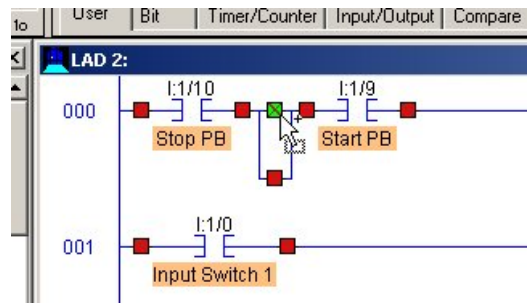
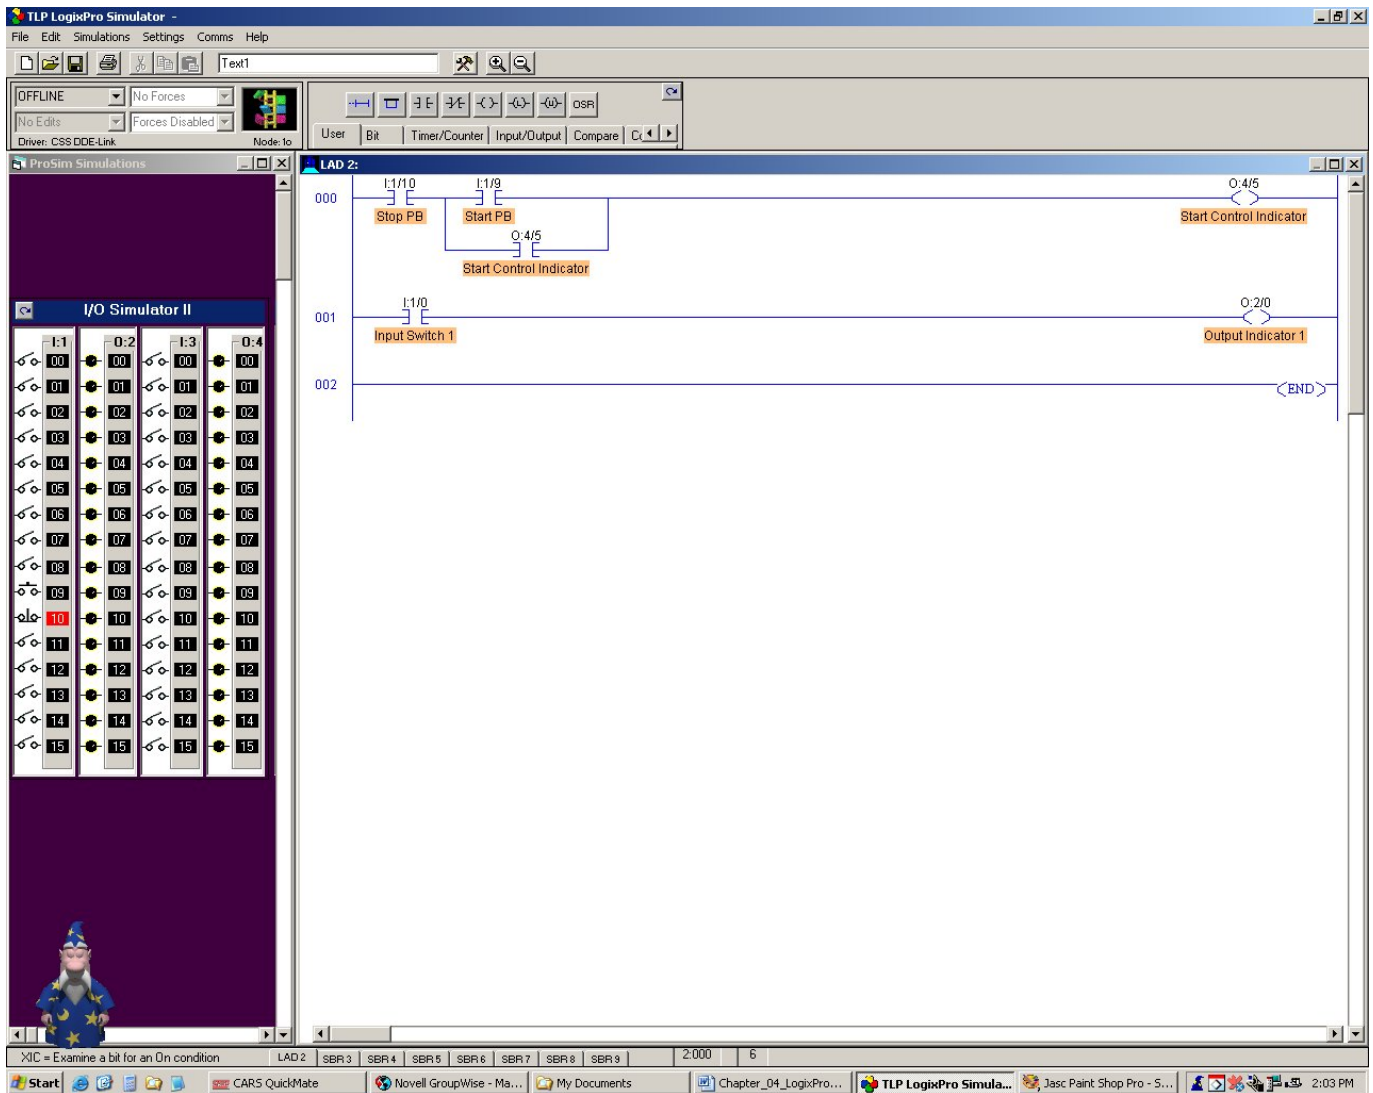

Figure 10
Figure 11
- ❑ Drag the instruction addressed to I:1/9 into the branch. Figure 10 depicts the Start PB being dragged into the branch and Figure 11 show the Start PB in the branch.
- The ladder logic should now look like Figure 11.